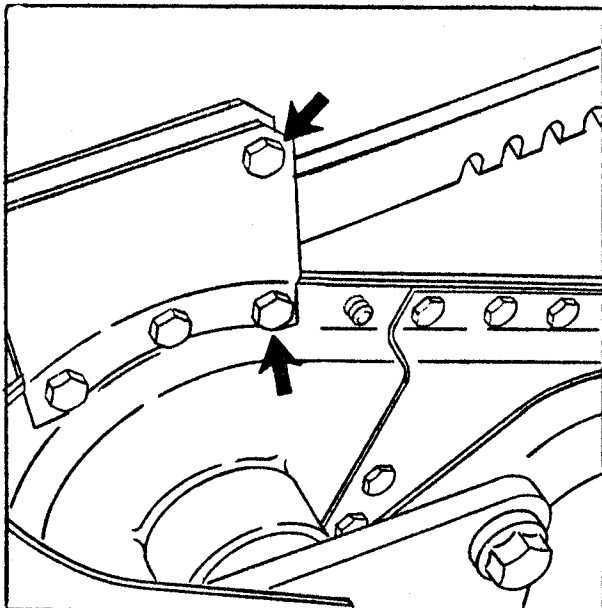

FIGURE 2: REMOVE HARDWARE INDICATED
STEP 2: Attach the clevis bracket (item 2) to the depth bar retainer and chain case using the two 5/16x1-1/2" hex head bolts, lockwashers and hex nuts (items 22, 23 & 24 of illustration. NOTE: Install two of the 5/16 flat washers (item 25) on each side of the chain case to act as spacers as shown in figure 2. The clevis bracket can remain on the tiller permanently!
STEP 4: Attach the draw-bar of the assembly to the clevis bracket with two clevis pins and lock in place with two hair pins. NOTE: Harrow adapter (item 6) can be reversed to point down for a more shallow furrow.